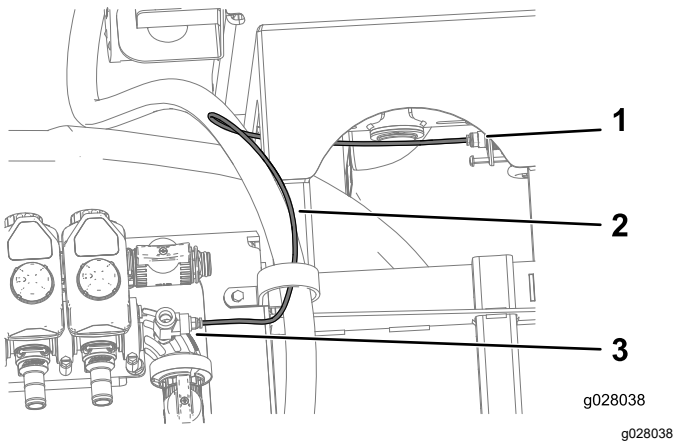

Figure 38
4. Connect the pressure transducer tube to the coupling at the T-fitting in the 90° elbow and the coupling at the pressure gauge (Figure 38).